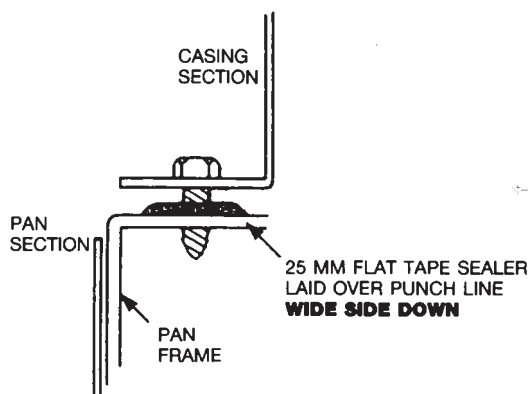

Figure 4.
**NOTE:** Tape sealer is trapezoidal in shape and must be installed wide side down (Figure 4).